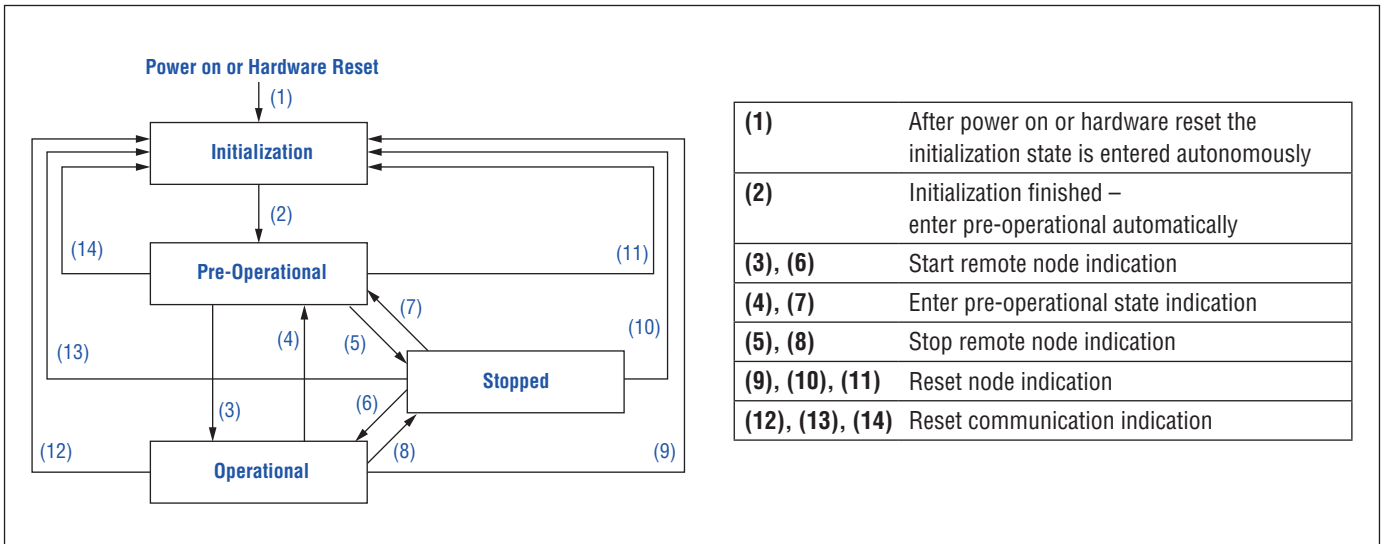

Fig. 26: CANopen state machine
In the pre-operational state communication via SDOs (chapter 5.7) is possible, while (PDO) communication is not allowed. Configuration of PDOs and device parameters may be performed. Also the emergency objects and error control service like the CANopen sensors “heartbeat message” occur in this state. The node will be switched into the operational state directly by sending a NMT “start remote node” (3) (Fig. 26).